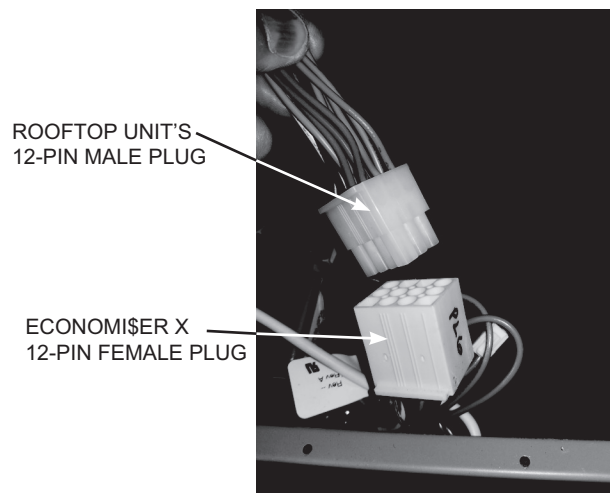

Fig. 13 — Connect EconoMi\$er X Harness to Unit PL6 Economizer Harness
17. Remove and save the 12-pin jumper plug from the unit economizer harness – located in the upper left corner of the unit. Insert the EconoMi\$er X plug into the unit wiring harness. See Fig. 13.